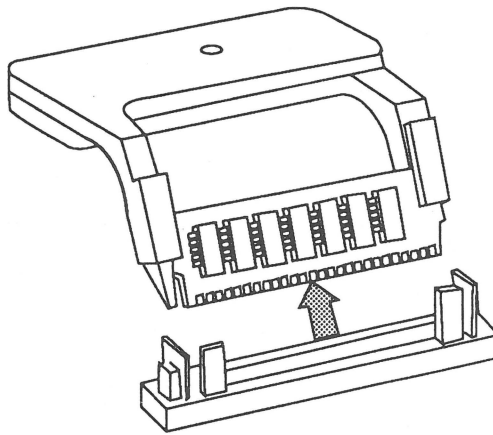

FIGURE 4
4. Pull up and remove the SIMM from the socket (Figure 4).